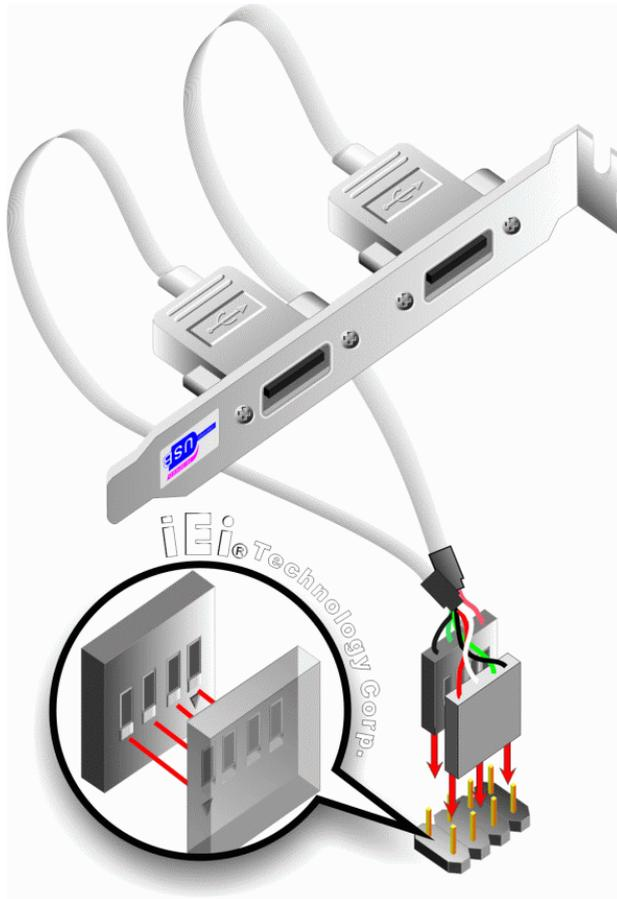

Figure 5-11: Dual USB Cable Connection
Step 3: Insert the cable connectors Once the cable connectors are properly aligned with the USB connectors on the IOWA-MARK, connect the cable connectors to the onboard connectors. See **Figure 5-11**.